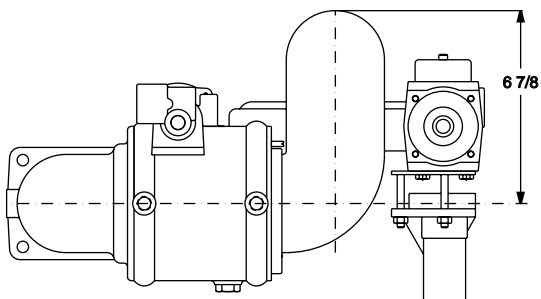

Figure 2
- STEP 1** Install a Stop in the #2 Stop/Plug location for the Rotational Travel (See Figure 2 - Side View). Install a Stop in the Horizontal Stop location (See Figure 2 - Top View). Remove all other stops and plugs from the Elevation and Rotational locations.
- STEP 4** The potentiometer sensors are now calibrated; remove the two Elevation and Rotational stops. Install all the plugs and stops in the desired locations (Figure 2).